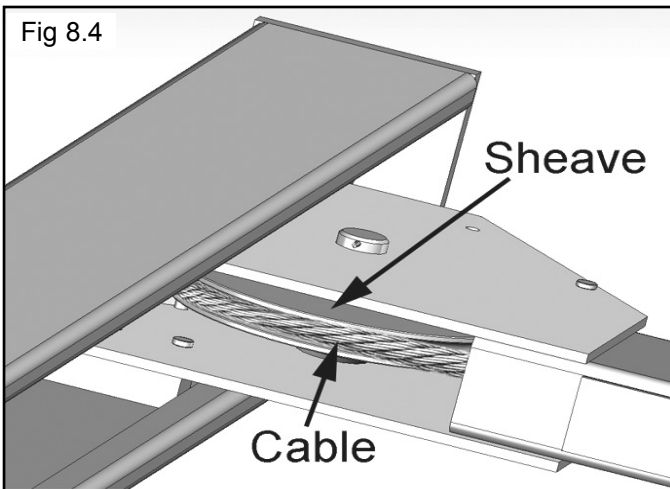

Fig 8.4
3. After routing the Cables double-check to make sure all are properly positioned and remain within the grooves of ALL Sheaves. (See Fig. 8.4 - 8.5)